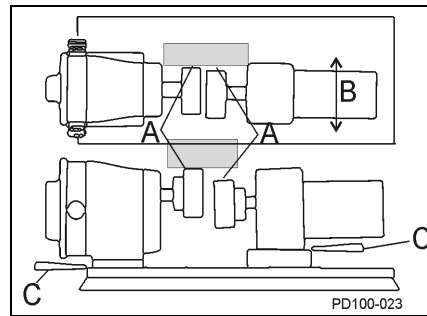

Figure 22 - Check Parallel Alignment
2. Using feeler gauge at location "A" in Figure 22, determine direction and amount of movement needed (Figure 22, item B).